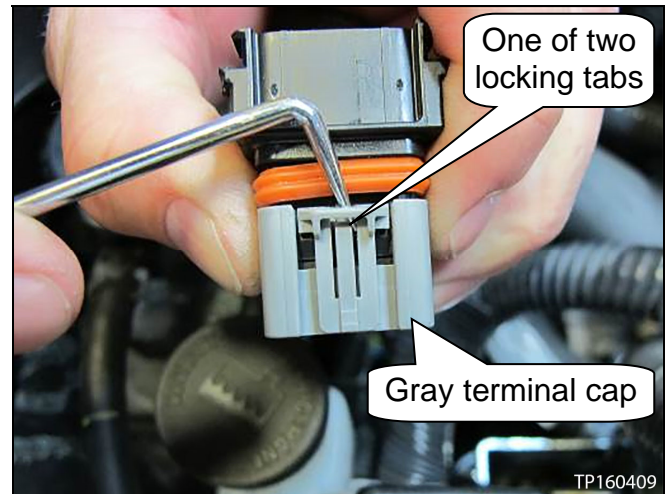

Figure 7
- a. Using a suitable tool, unlock the two locking tabs, and then slide down halfway to half latch position (see Figure 7).